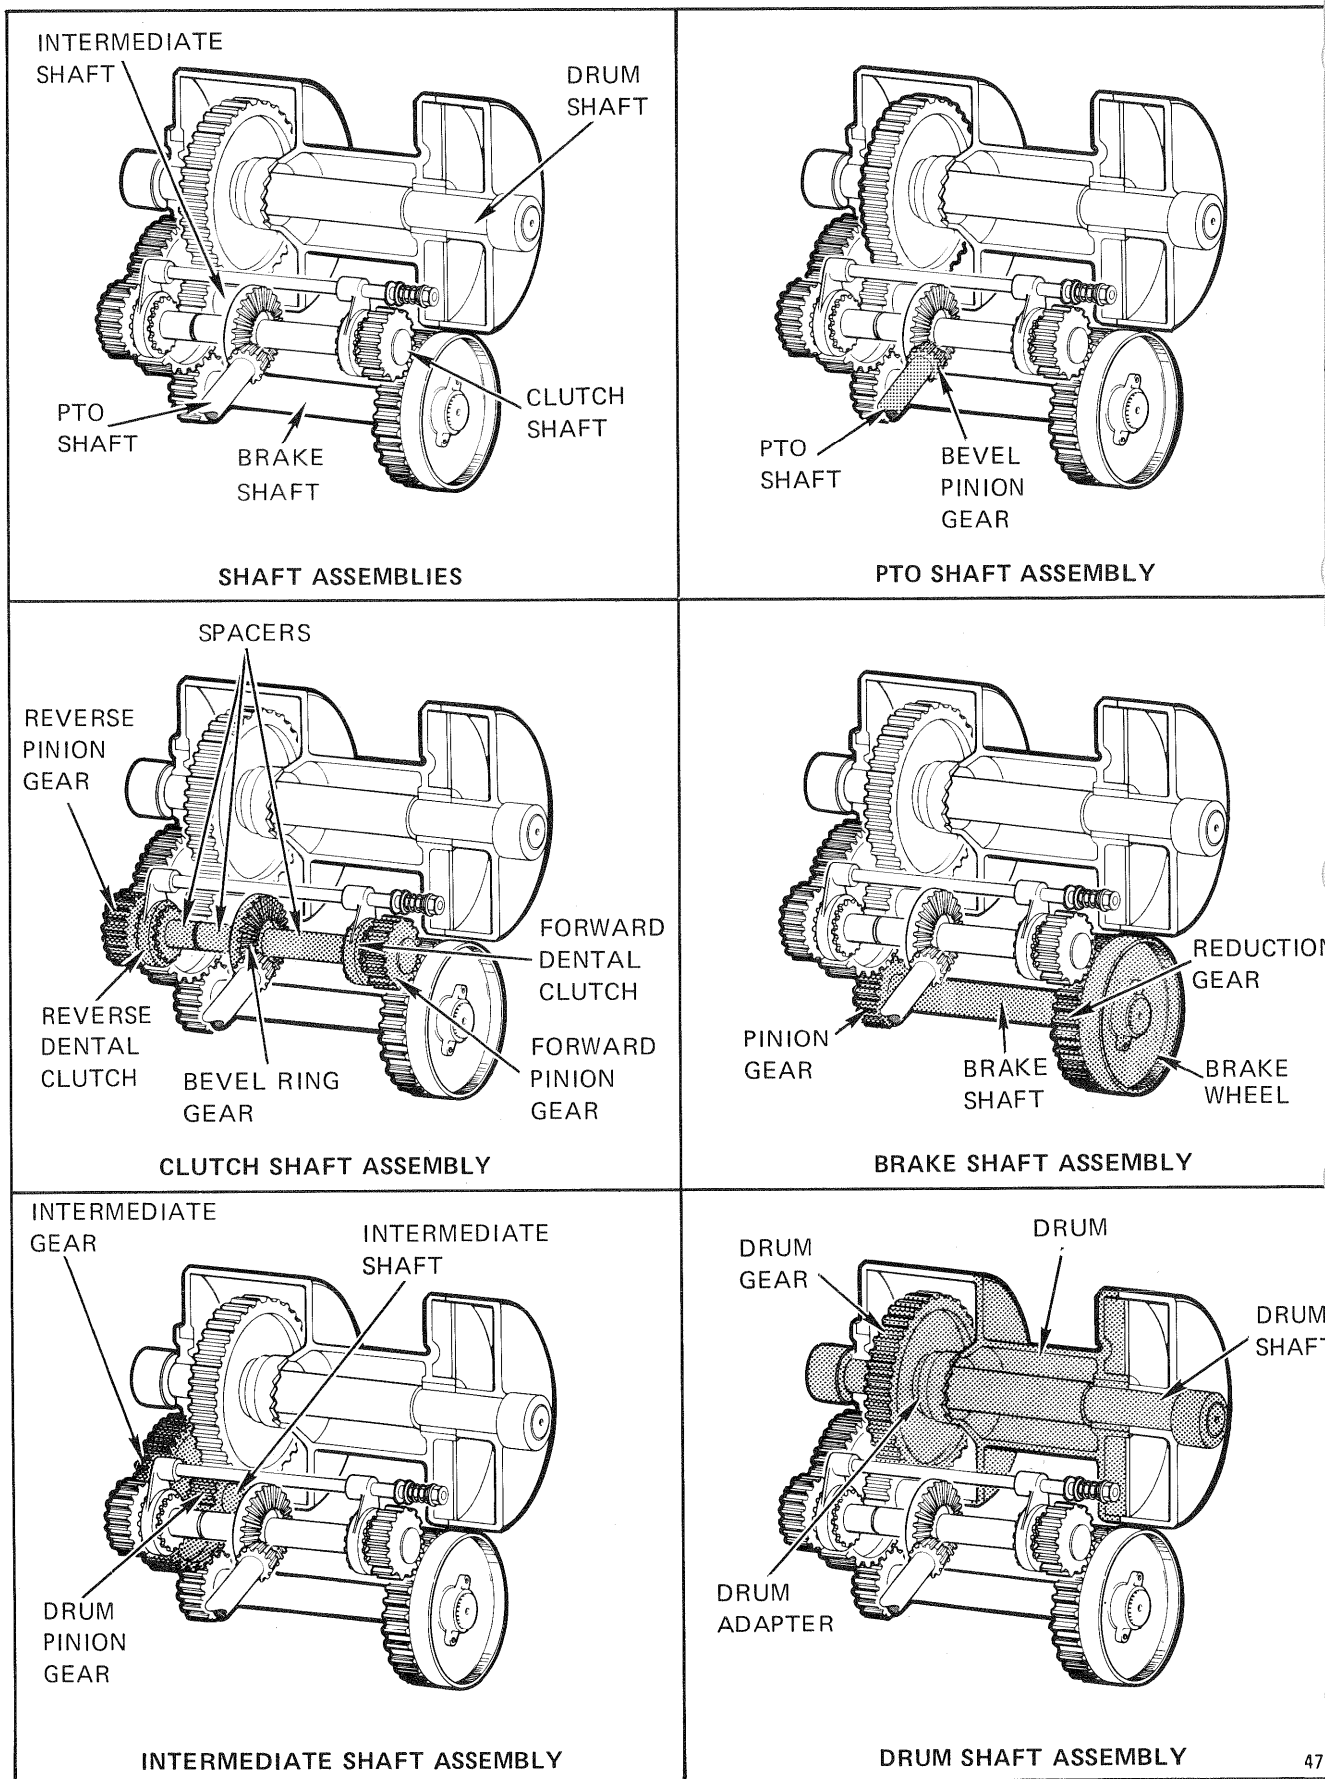
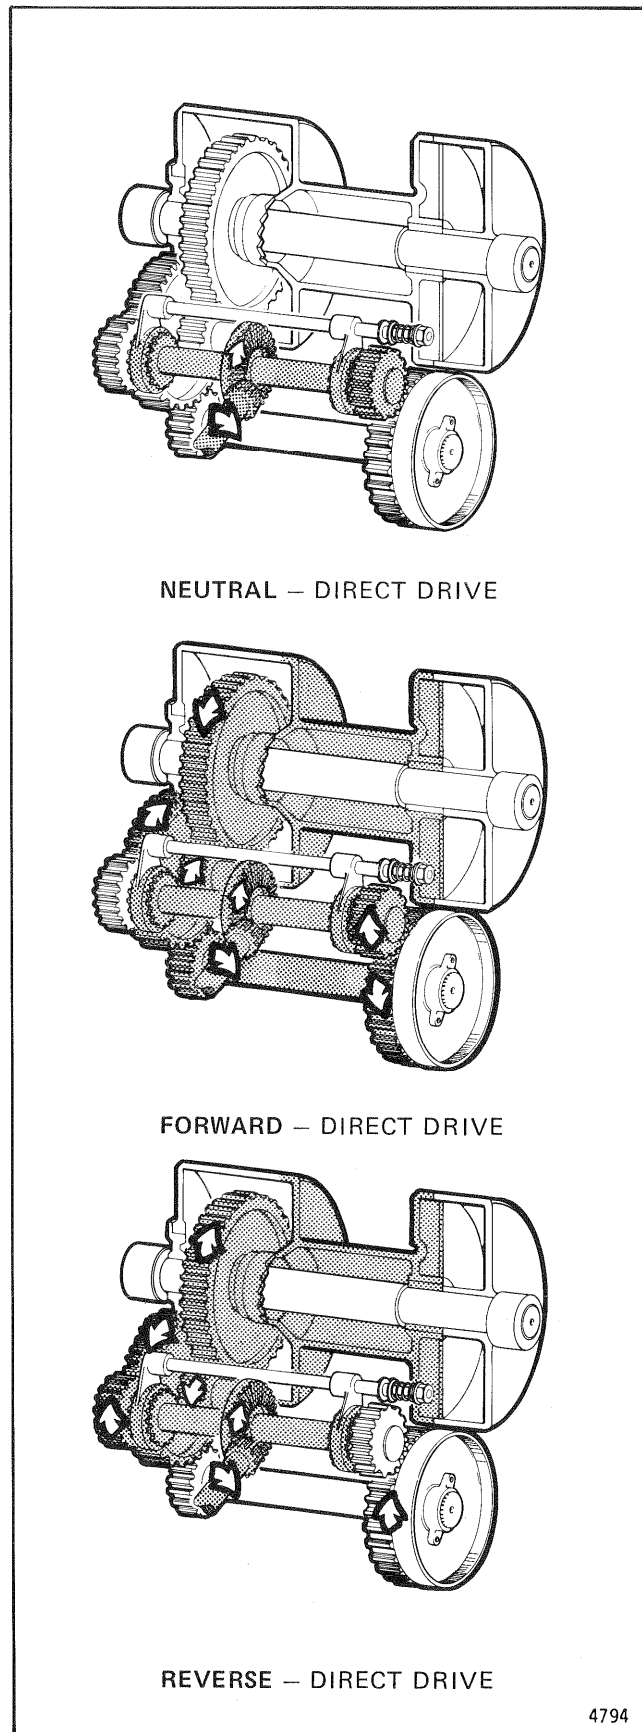

FIGURE 6-2. DIRECT DRIVE GEAR TRAIN, LOCATION OF COMPONENTS
FIGURE 6-3. TORQUE TRANSFER, DIRECT DRIVE WINCH
6-10. The direct drive gear train consists of five shaft assemblies: (1) a PTO shaft assembly, (2) clutch shaft assembly, (3) brake shaft assembly, (4) intermediate shaft assembly and (5) a drum shaft assembly. The shaft assemblies are shown in Figure 6-2 and torque transfer during operation is shown in Figure 6-3.